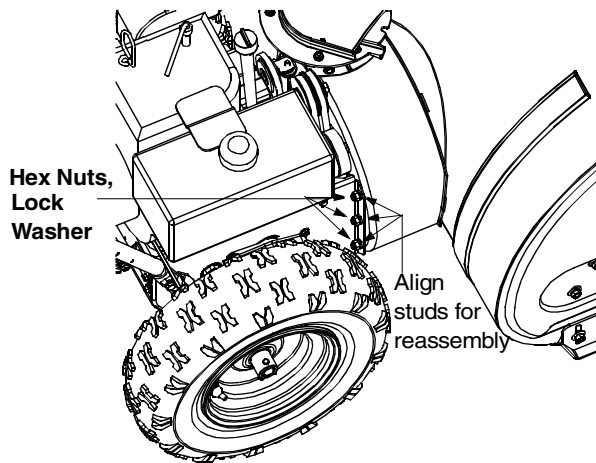

Figure 30
- Remove the six hex nuts and lock washers which attach the auger housing assembly to the frame assembly. See Figure 30.
- Lift the frame assembly and tip the auger housing forward to align studs with the corresponding holes on both sides of the frame assembly. See Figure 30. Push the frame assembly fully on to the studs.
- From the frame assembly side, insert six lock washers and hex nuts on to the studs . These pieces of hardware were removed earlier. See Figure 30. Tighten the nuts securely.